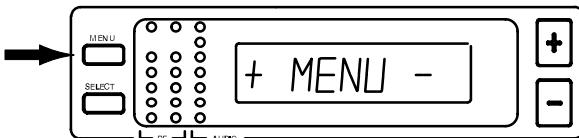

FIGURE 25
1. Press the MENU button. The “+ MENU –” display appears, as shown in Figure 25.